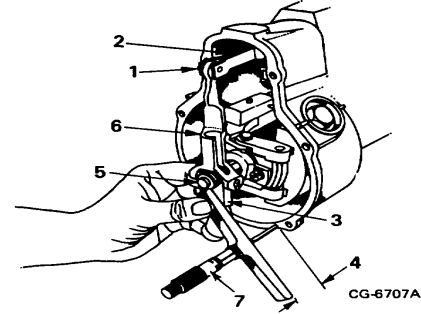

Figure 12. Measuring Slider-to-Housing Distance (If Guide Bolt Gauge 1 682 329 038 is not available)
NOTE: If guide bolt gauge 1 682 329 038 is not available use a depth micrometer to measure from back of slider to governor mating surface (no gasket) (Figure 12). Distance (item 4) should be 39.15 i .2 mm (1.54 ± .008").